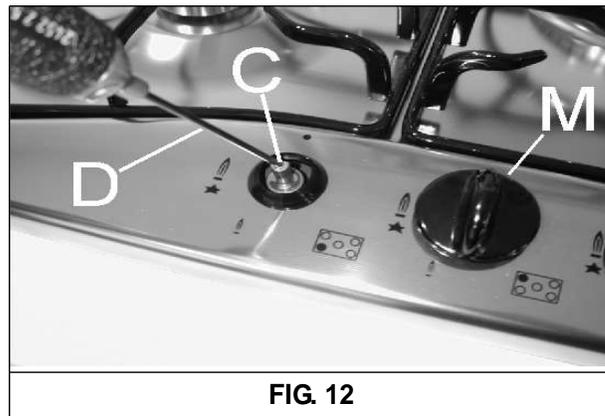

FIG. 12
- Remove knob “M” (fig. 12) of the tap, which is simply pressed on to its rod.
- Insert a small screwdriver “D” into hole “C” (fig. 12)